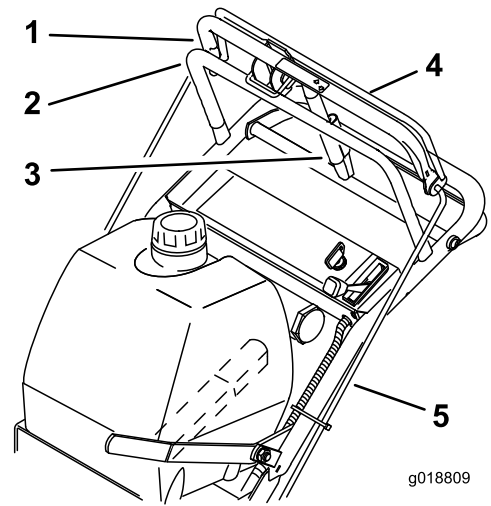

Figure 22
- Check the gap between the upper control bar and the fixed bar with the wheel drive fully engaged. The gap will need to be approximately 25 to 32 mm (1 to 1-1/4 inches); refer to Figure 22.